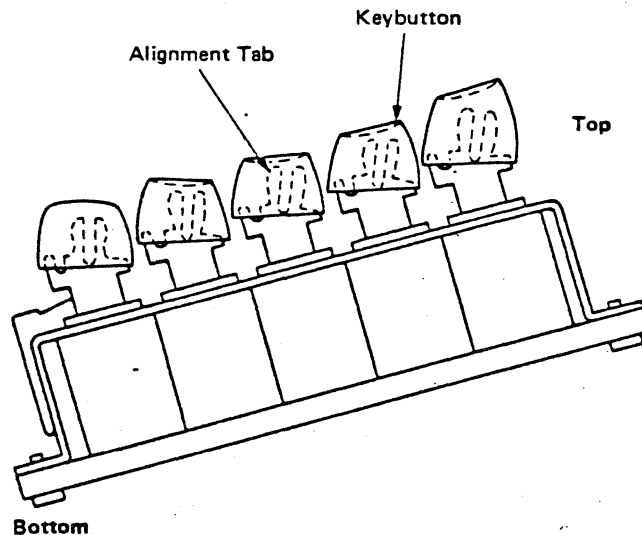

Figure 4-9. Key Module Replacement
1. Position the key module so that the alignment tab will engage the keybutton as shown in Figure 4-9.